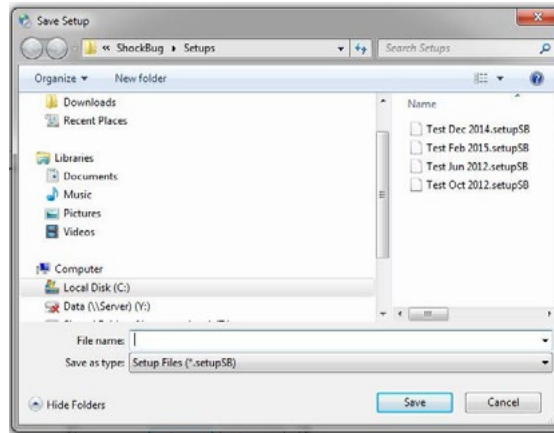

Figure 7
4. Enter a file name for the setup file (Figure 7).